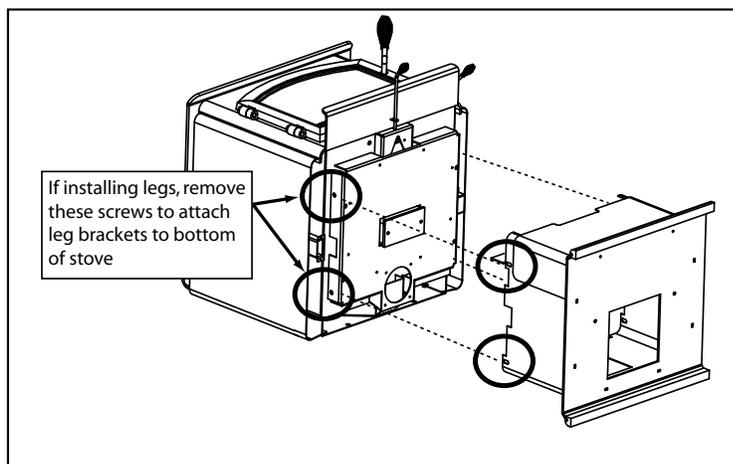

FIGURE 16A
5. Secure mounting brackets to the bottom of the stove with 1/4"-20 Phillips screws. **See Figure 16A.** These screws are located on the outer skin at the bottom rear of the stove.